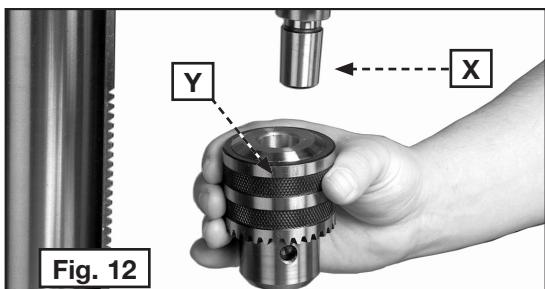

Fig. 12
IMPORTANT: Make certain the spindle taper (X) Fig. 12, and tapered hole in chuck (Y) are clean and free of any grease, lacquer or rust preventive coatings.